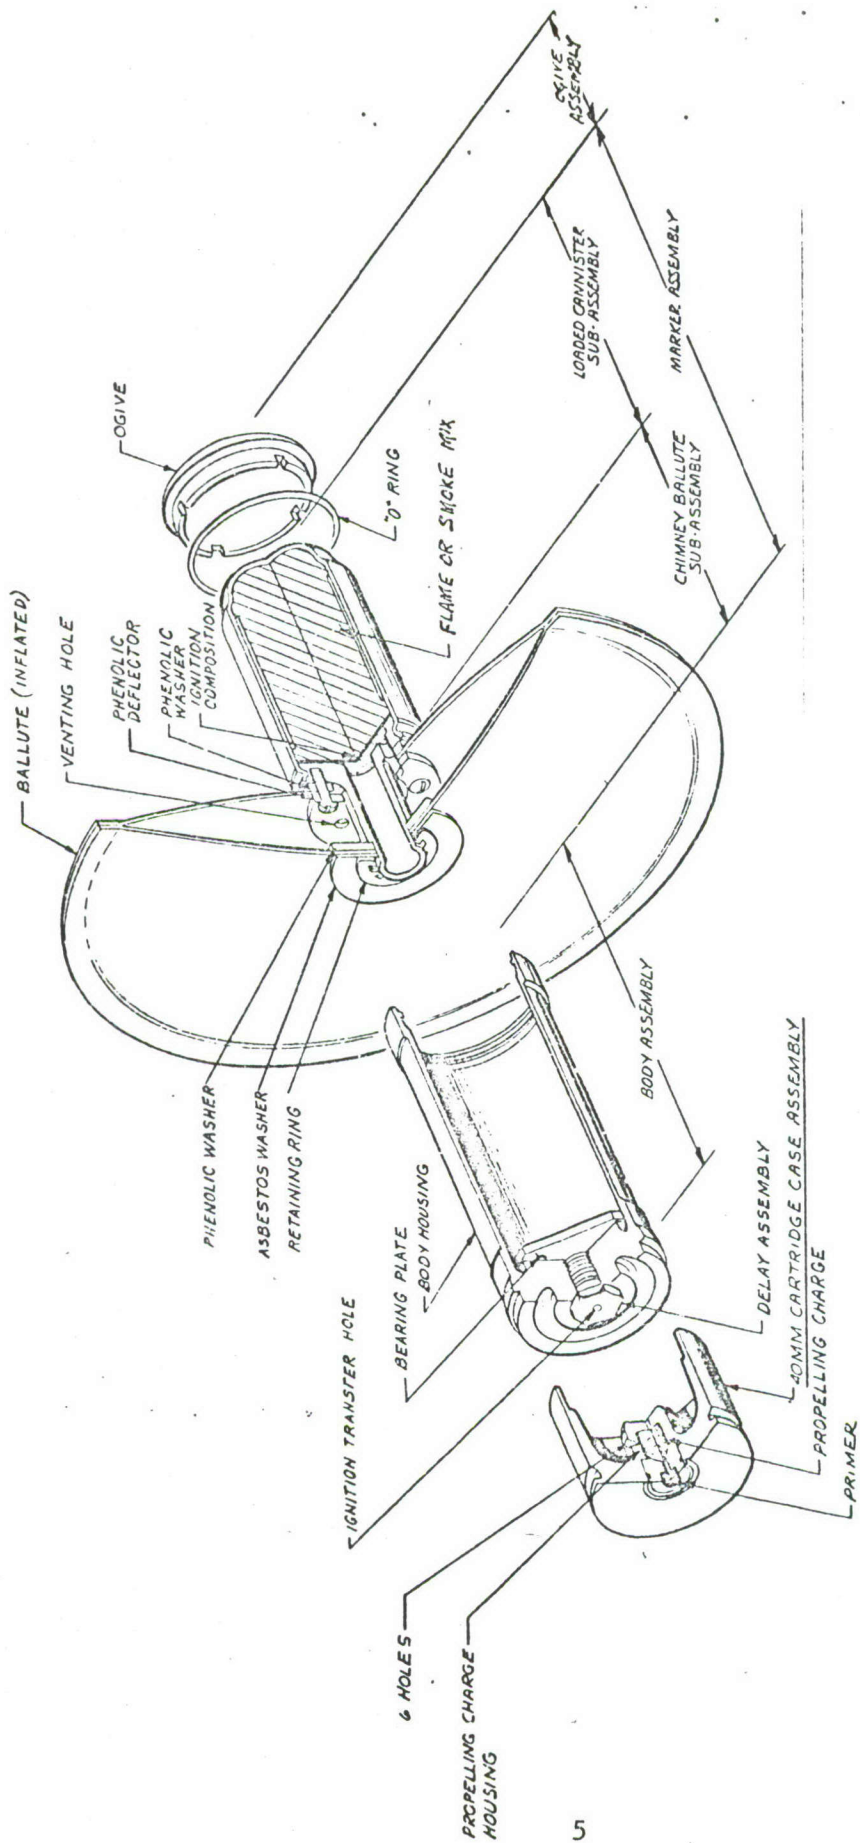

Figure 3. Exploded View, 40mm Floating Signals
a. Major and interchangeable components ... These 40mm floating signals are composed of a cartridge case assembly, a body assembly, a marker assembly, and an ogive assembly (Figure 3); the body, marker, and ogive assemblies comprise the projectile. All of the components except those of the marker assembly are interchangeable with those of other 40mm signals developed under the Materiel Need (QMR). However, final end items would have different color codes and embossed ogives may be employed to provide identification at night. These two signals also have many common parts in the marker assemblies as indicated in the following paragraphs.
(1) 40mm Cartridge Case Assembly ... The 40mm Cartridge Case M195 consists of an aluminum cartridge case, a percussion primer, and a propelling charge. The primer and charge are located in the base of the case as shown in Figure 3. Expanding gases from the propelling charge pass through six holes in the periphery of the propelling charge housing to propel the projectile (the body/ marker/ogive assembly) from the case and to simultaneously ignite the delay charge, which is located at the base of the projectile (body assembly).
(2) Body Assembly ... The body assembly consists of a body housing, a delay assembly, and a bearing plate.